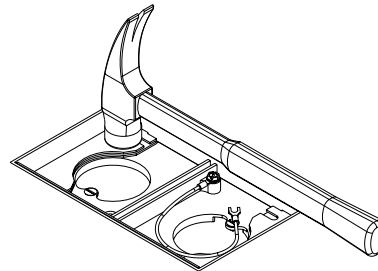

Figure 3
3. Using a hammer, tap the adapter until it sits flush with the bottom of the preset. **Do not trap ground wire below adapter** (see Figure 3).